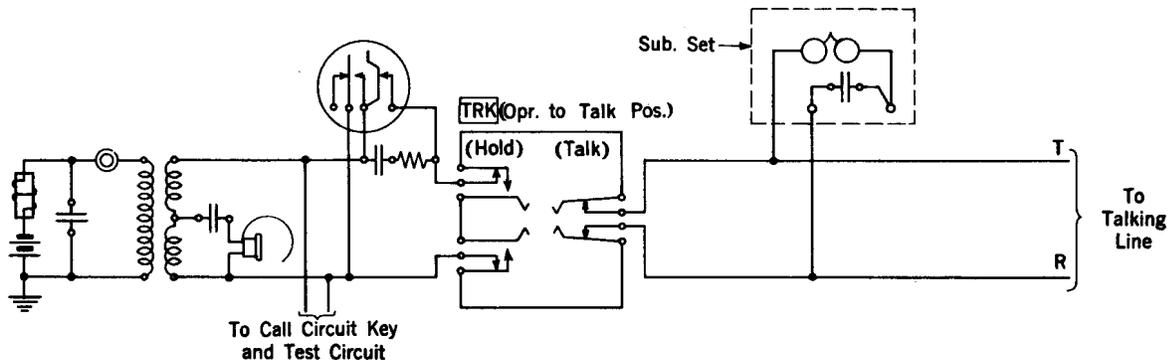

Fig. 6 - Telephone, Talking Line and Call Circuit
4.01 To answer an incoming call or to make an outgoing call, operate the trunk key TRK to the talking position to connect the telephone and dial to the talking line. When answering an incoming machine ringing call, operate the TRK key to the hold position to trip the ringing, then restore to the talking position. See Fig. 6. To hold the talking line and release the telephone circuit for use with the test circuit operate the TRK key to the hold position.